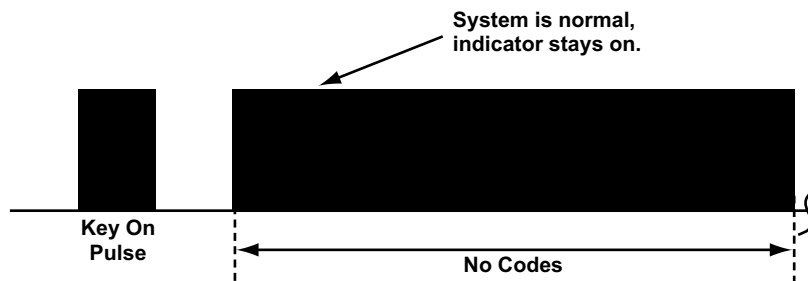

Figure 8-24 Honda SRS Code Type 06 - Normal (no failure), SRS indicator stays on
- Type 06 with no failure, see Figure 8-24 and Table 8-15 on page 70